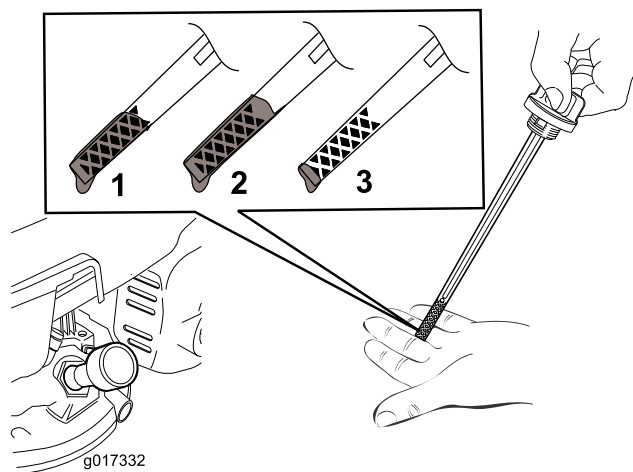

Figure 6
2. Remove the dipstick (Figure 6).
Note: Fill the engine crankcase with oil until the dipstick indicates that the engine oil level is correct as shown in Figure 6. If you overfill the engine with oil, remove the excess oil as directed in Changing the Engine Oil.